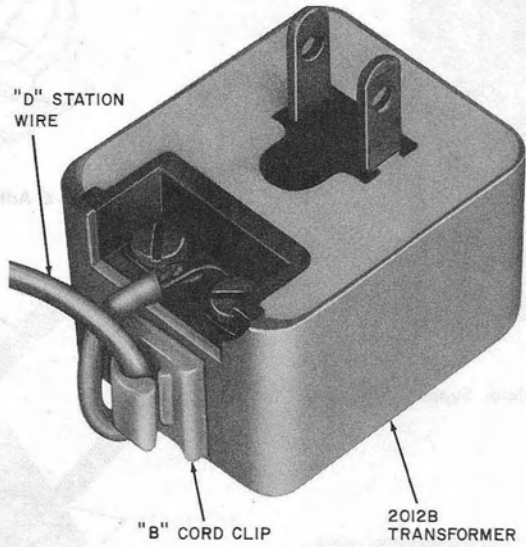

Fig. 8—Cord Clip Used to Secure Station Wire to 2012B Transformer
8.03 Remove protective paper from adhesive of B cord clip and stick clip to bottom of 2012-type transformers as shown in Fig. 8. Terminate D station wire on screw terminals of 2012-type transformer and hook station wire through B cord clip as shown in Fig. 8.♦